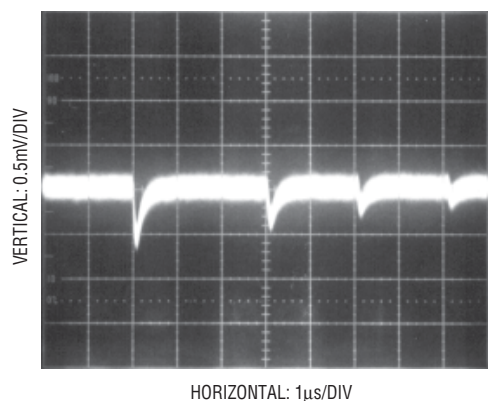

Figure 15. Adequate Reference Settling
1. Transients on the reference inputs caused by the capacitive switching currents must settle completely during each bit test (each 4 ACLK cycles). Figures 15 and 16 show examples of both adequate and poor settling. Using a slower ACLK will allow more time for the reference to settle. However, even at the maximum ACLK rate of 2MHz most references and op amps can be made to settle within the $2\mu s$ bit time. For example an LT1019 used in the shunt mode with a $10\mu F$ bypass capacitor will settle adequately. To minimize power an LT1004-2.5 can be used with a $10\mu F$ bypass capacitor. For lower value references the LT1004-1.2 with a $1\mu F$ bypass capacitor can be used.